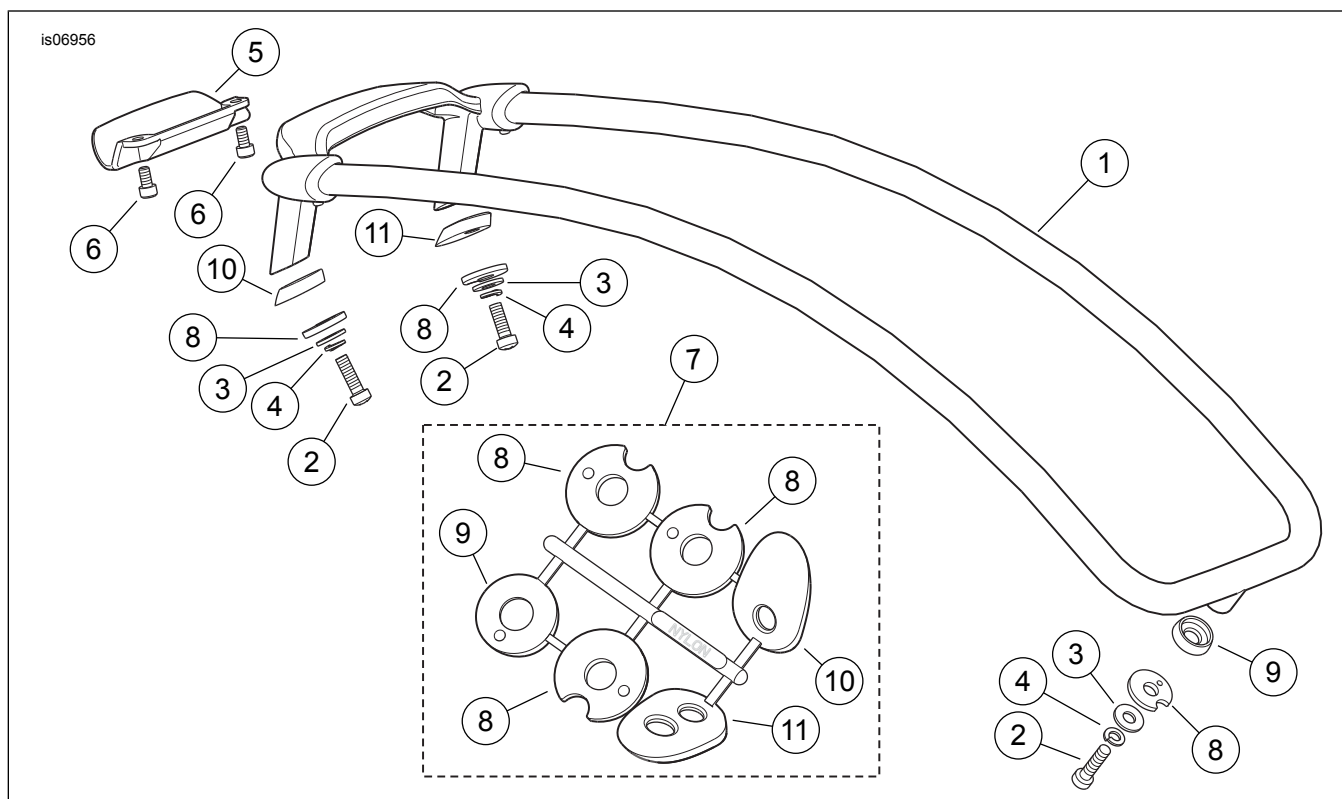

Figure 1. Service Parts, Air Wing Fender Rails for Trike
See Figure 1 and Table 1.
2. See Figure 1. Using a scissors or utility knife, neatly cut all three plastic mounting washers (8) and mounting pads (9, 10, 11) from the runner of one set. Install the correct mounting pad over each of the three screw mounts on one trim rail (1).
12. Get one of the trim rails. **If NOT installing an Air Wing Rail Light Kit (Part No. 68286-10 or 68388-10):** Fasten the filler plate (5) to the underside of the trim rail rear crosspiece with two #8-32 screws (6) from the kit. Tighten to 3.1–3.5 N·m (27–31 in-lbs).
2. **ALL installations:** See Figure 1. Obtain a trim rail light assembly (1) from the kit.
3. Install the light to the underside of the trim rail rear cross bar with two screws (2) from the kit. Tighten the screws securely.